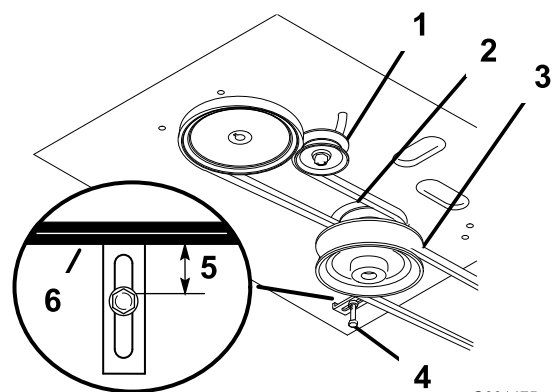

Figure 47
8. Check the belt guide under the engine frame for proper adjustment (Figure 47).
Note: The distance between the belt guide and the mower belt should be 19 mm (3/4 inch) when you engage the mower belt (Figure 47). Adjust the mower belt as necessary. The disengaged belt should not drag or fall off the pulley when the guides and belt tension are properly adjusted.